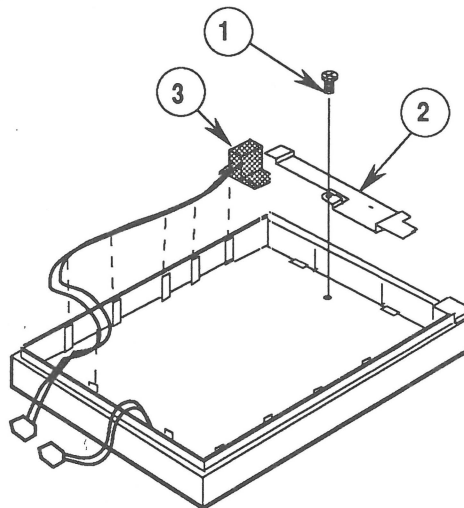

FIGURE 20
2. Remove the mounting screw (Figure 20, #1) that secures the metal bracket (Figure 20, #2) to the case top. Remove the metal bracket.
3. Lift the LED assembly (Figure 20, #3) off the holding tabs.
1. Position the LED assembly (Figure 20, #3) over the holding tabs.
2. Replace the metal bracket (Figure 20, #2) on the case top, and replace the mounting screw (Figure 20, #1).